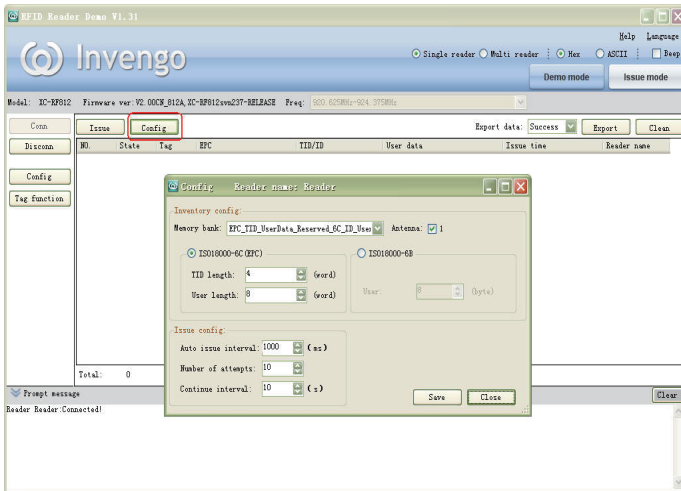

Figure 6-15
- 2, Enter issue mode screen, and click the “Config” button, a pop-up configuration dialog box appears as shown in Figure 6-15.